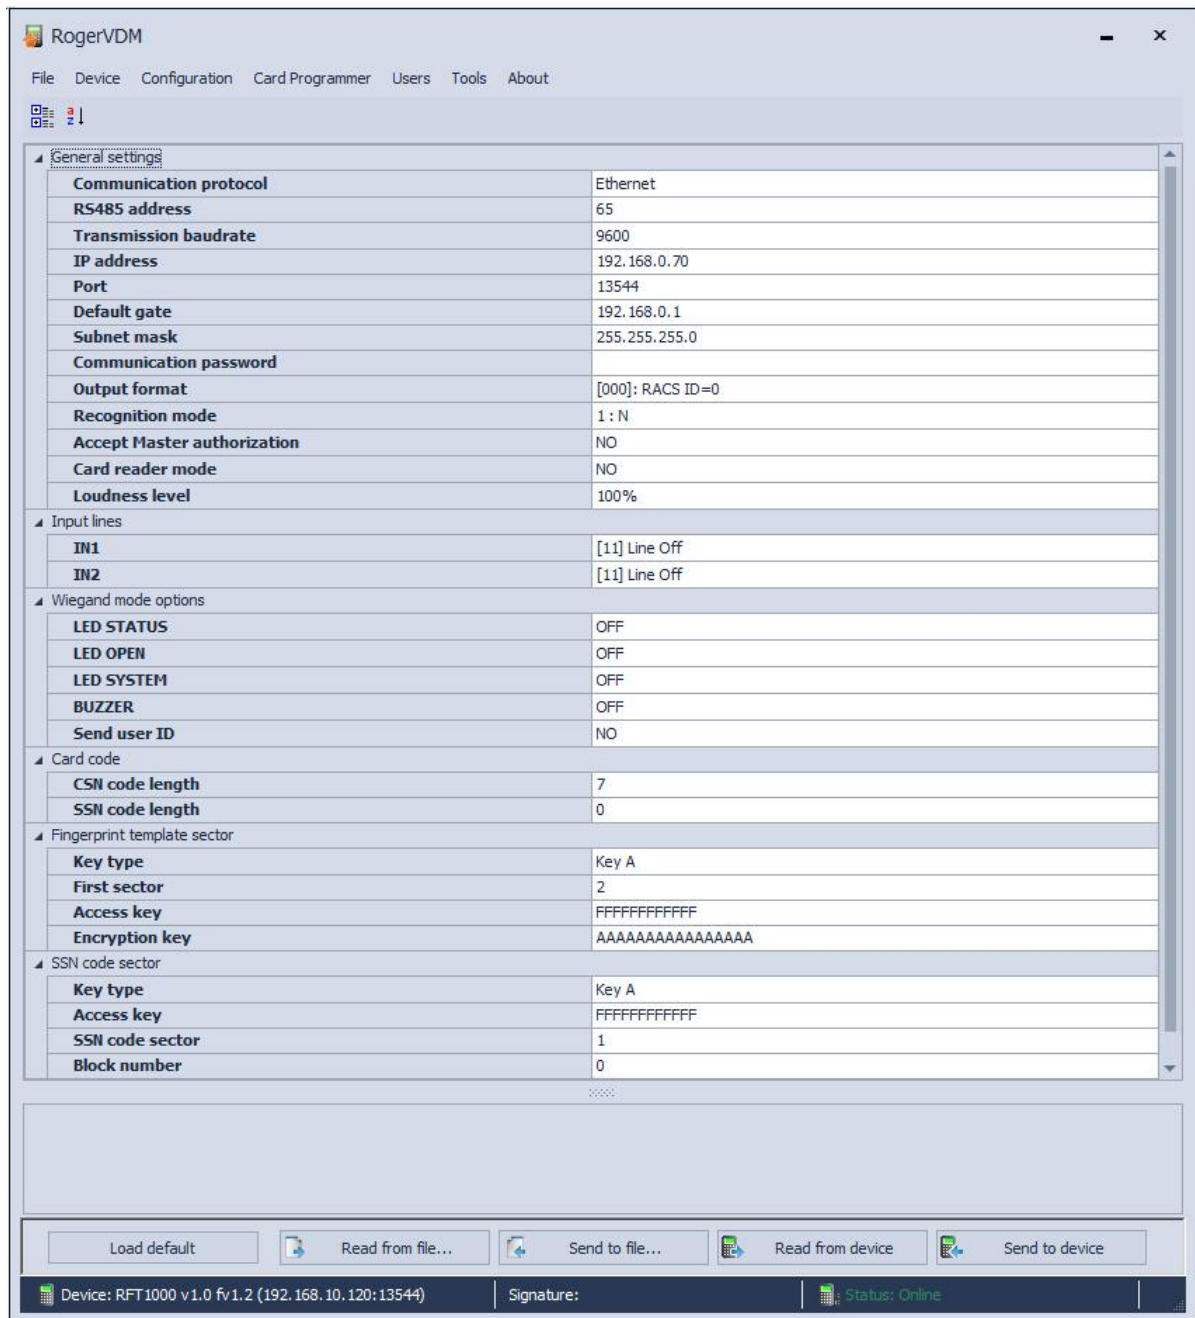
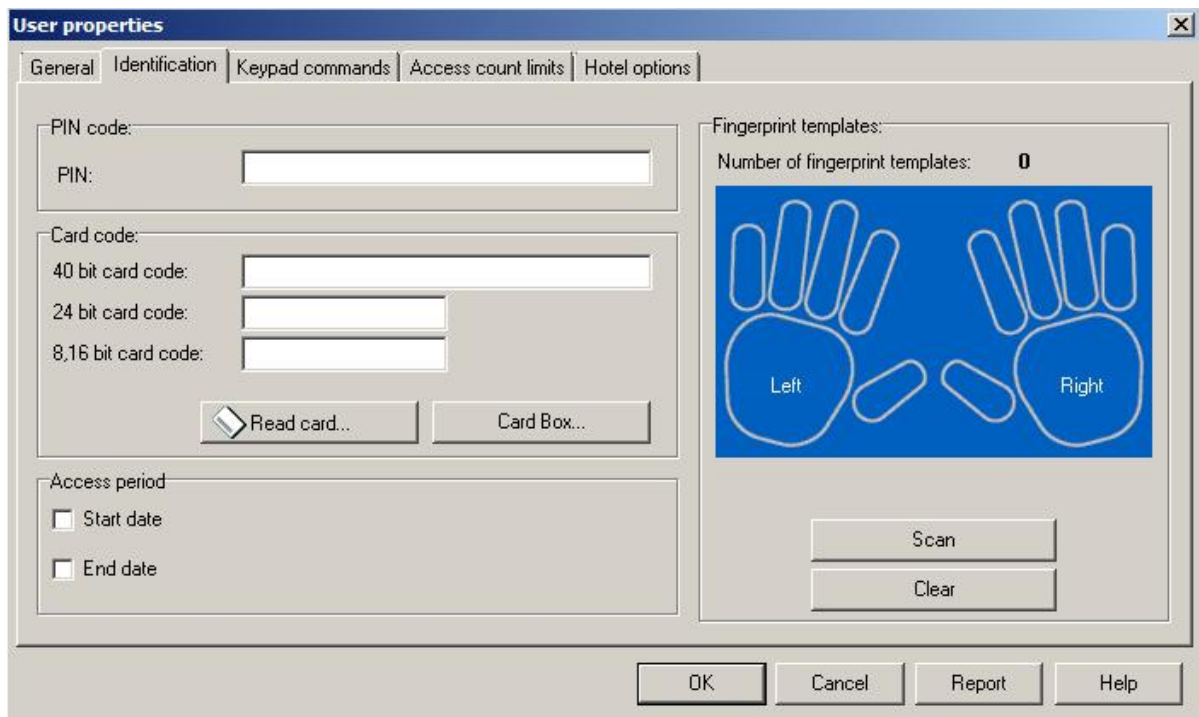
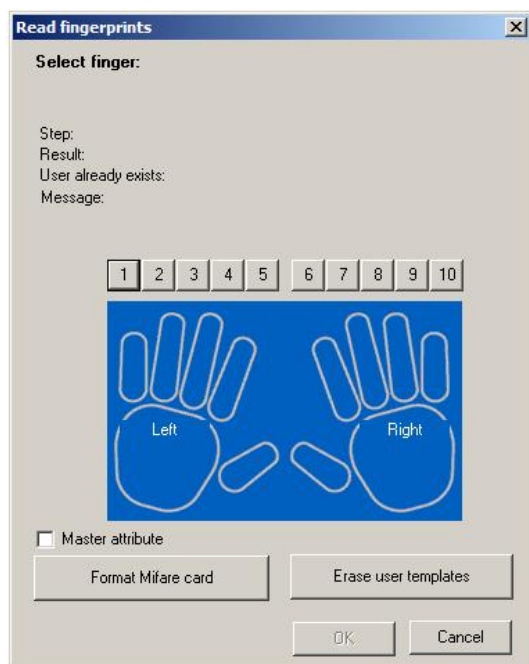
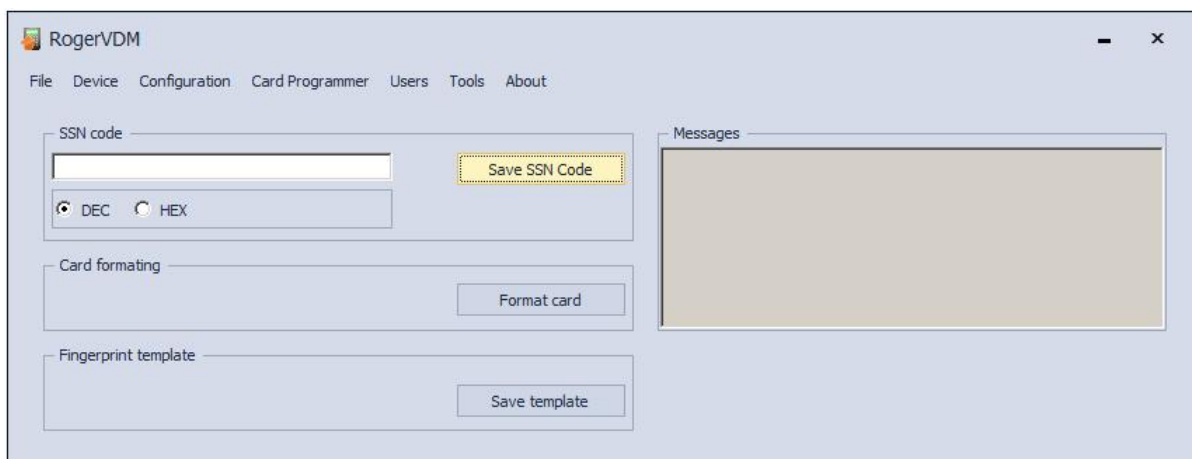

Fig. 7 RFT1000 configuration in RogerVDM software
Fig. 10 Identification tab in user properties
Fig. 11 Fingerprint scanning window in PR Master
Fig. 12 SSN code definition
After establishing the connection it is possible to modify communication parameters both for Ethernet and RS485 communication in the newly opened window, which can be accessed by selecting the option **Configuration** in the top menu. In the area **General settings** (see fig. 7) enter your settings and then upload the configuration to the reader by means of **Send to device** button.
RogerVDM software enables configuration of RFT1000 inputs. Related options are available in area **Input lines**, which can be displayed by means of the option **Configuration** in the top menu of RogerVDM software (see fig. 7). When RFT1000 reader is installed in RACS 4 system, only the function **[92]: Card Reader Mode** is applicable. Other available functions are used beyond RACS 4 system.
the next window, in the tab **General** enter first/last name of user and select Group. In the tab **Identification** (see fig. 10), card number, PIN and/or fingerprint templates can be assigned to the user.
Selection of the button **Scan** results in opening the window (see fig. 11), which enables scanning and assigning of fingerprint templates to particular user.
Enrolment of user in this mode requires selection of **Scan** button in the window shown in fig. 10. In the newly opened window select the button **Configure** in order to upload data to RFT1000 administrator reader and then select the button **Read**. The memory of such reader shall be overwritten for the period of fingerprint scanning. The idea of administrator reader was applied in order to avoid erroneous assignment of the same fingerprints to different users. It is not required to use dedicated RFT1000 reader as administrator reader. Any RFT1000 available in RACS 4 can be used as administrator reader. The memory of such reader shall be overwritten for the period of fingerprint scanning but after upload of configuration data to RACS 4 system, its settings shall be restored.
In the window shown in fig. 11 fingers for scanning can be selected by means of numeric buttons. When selected, scanning procedure is started and it is necessary to follow displayed messages. After fingerprint scanning, close the window by means of **OK** button. Then in the window shown in fig. 10 user's card number can be specified. Card number can be entered manually in the field **40bit card code** or it can be read by available MIFARE reader in the window opened by means of **Read card...** button. Depending on RFT1000 configuration, built-in proximity reader can be activated or deactivated. Therefore card number can be read by means of such devices as PRTxxMF series reader (if available), RUD-3 reader (if available) or RFT1000 MIFARE reader (when
Enrolment of user in this mode requires selection of **Scan** button in the window shown in fig. 10 and then selection of RFT1000 reader to be used in fingerprint scanning.
1. It is recommended to format (erase) card memory by means of the button **Format Mifare card** (see fig. 11).
3. After closing the window with **OK** button it is necessary to assign MIFARE card number to the user in the field **40 bit card code** (see fig. 10)
5. In order to use built-in MIFARE card reader, click the button **Read card...** (see fig. 10), select controller with RFT1000 reader, place card in vicinity of RFT1000 and when LED OPEN (green) flashes scan fingerprint, which is already recorded on card.
Any user can have Master attribute. When the option **Master attribute** is activated for particular user (see fig. 11) then such user will not be obliged to scan his fingerprint at all RFT1000 readers with activated option **Accept Master authorization** (see fig. 7). Such user shall be identified only by means of his MIFARE proximity card number.
It is also possible to define sectors in MIFARE Classic memory cards, where fingerprints templates are to be recorded. Related options are available in the configuration window of RogerVDM software in the area **Fingerprint template sector** (see fig. 7):
User identification by configured RFT1000 reader depends on selected recognition mode (see section 4.2.1), input with function **[92]: Card Reader Mode** (see section 4.1.3) and option **Card reader mode** (see fig. 7). Input **[92]** is used for dynamic switching of user identification method in such way that it depends on input state. More information on application of the input **[92]** is given in table 4 below. The option **Card Reader Mode** is applicable only for 1:N recognition mode and it enables permanent activation of card reader in RFT1000. When this option is selected then user can identify by means of card or fingerprint templates as needed. Options and functions of RogerVDM enable detailed and variant configuration of user identification method. But there can be distinguished following, most often applied settings:
MIFARE Classic and MIFARE Ultralight cards have their read-only serial numbers called CSN and memory, where administrator defined number called SSN can be stored. Optional SSN code provides additional security as it can be saved in administrator defined sector and it can be protected with access code against unauthorized reading. RogerVDM software enables defining of SSN code and recording it to any available sector of MIFARE card memory. RFT1000 reader can identify particular card (user) by means of CSN code, SSN code or combination of both but the total number identified in RACS 4 system is limited to 5 bytes. Options related to reading of CSN and SSN codes are available in **Card code** area of reader configuration window (see fig. 7)
SSN code as opposite to CSN code of MIFARE card can be defined by administrator. SSN Code as well as its sector in memory and method for recording can be indicated by administrator. SSN code can be defined and recorded by means of RogerVDM options, which are available in the area **SSN code** in the **Card programmer** window (see fig. 12). After selection of **Save SSN code** button it is necessary to hold the card in vicinity of RFT1000 reader. The code can be entered in decimal or hexadecimal format. Location and recording method can be defined by means of options, which are available in the area **SSN code sector** (see fig. 7):
The communication with RFT1000 reader both in case of Ethernet and RS485 port can be encrypted with AES128 CBC standard. By default, encryption is conducted with empty communication password. Administrator can define his own communication password (max. 16 digits) in reader configuration window in the field **Communication password** (see fig. 7).